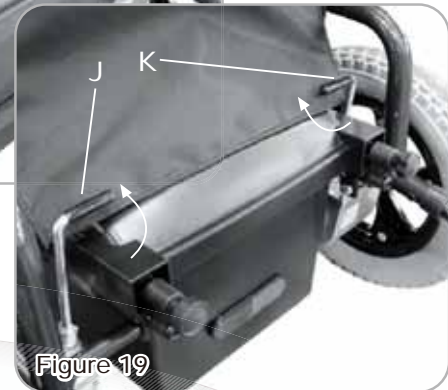

Figure 19
2. Turn the free wheel levers inward to disengage the drive motors. (See Fig. 19)